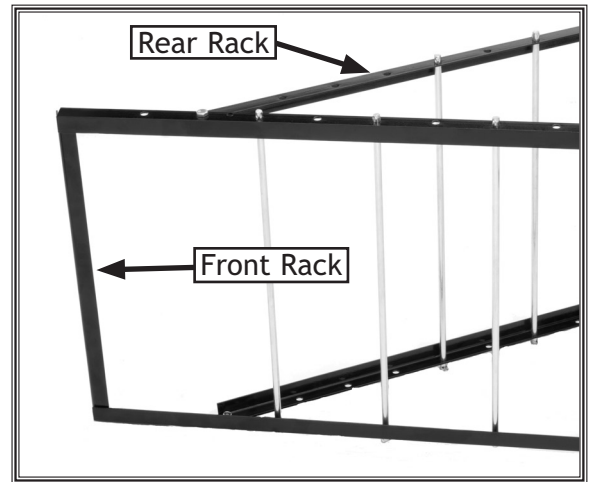

Figure 2. Rear rack attached to front rack.
1. Use the M8-1.25 x 16 hex bolts, flat washers, and lock nuts to attach the rear rack to the front rack as shown in **Figure 2**.